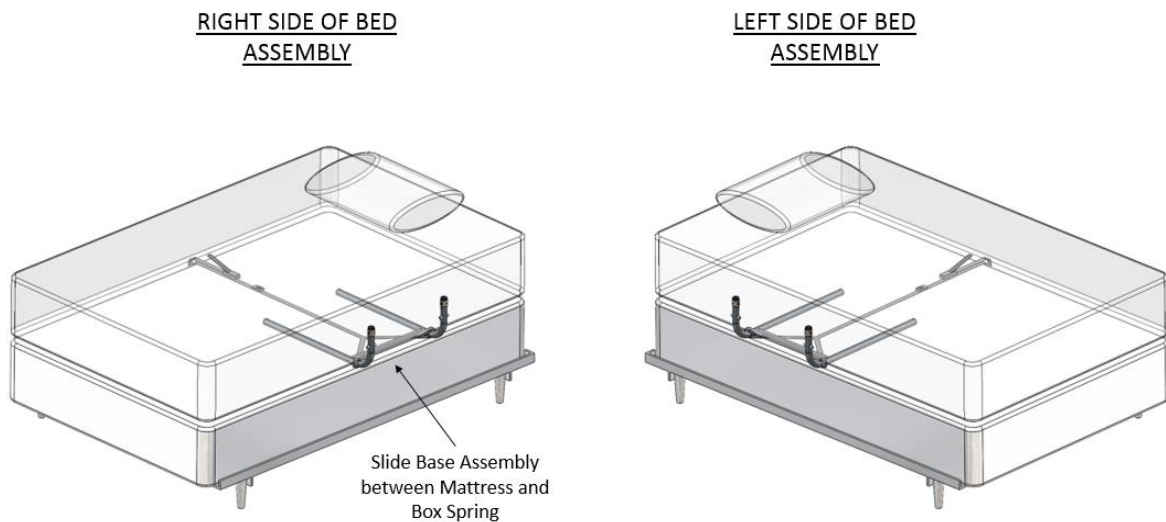

FIGURE 4
- Determine which side of bed to install the Bed Rail. Slide the Assembled Base between the Mattress and Box Spring of the bed, as shown in Figure 4.